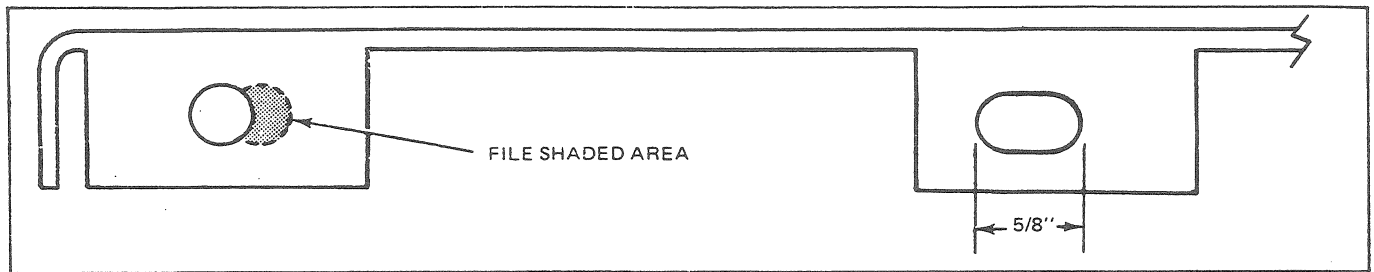

Fig. 10 – Article No. 116
2. Remove the two (2) screws retaining the wind deflector plate to the top of the radiator and remove the plate.
3. Remove the top left (1) bolt retaining the air deflector shield forward of the radiator.
4. Remove the three (3) bolts (2 forward of the radiator and 1 to the rear of the radiator) retaining the headlamp motor and plate to the left front inner fender.
5. Disconnect the two (2) leads from the rear limiter switch.
6. Remove the two (2) bolts retaining the forward limiter switch to the motor mounting plate and remove the limiter switch (do not disconnect the leads). Prop open one headlamp bucket to prevent them from dropping when the motor is removed.
9. Remove the rubber grommets and four (4) aluminum spacers from the motor mounting hole in the mounting plate.
10. Using a 1/4" diameter round file elongate the mounting holes inboard to accommodate studs on new motor. (See Fig. 10)